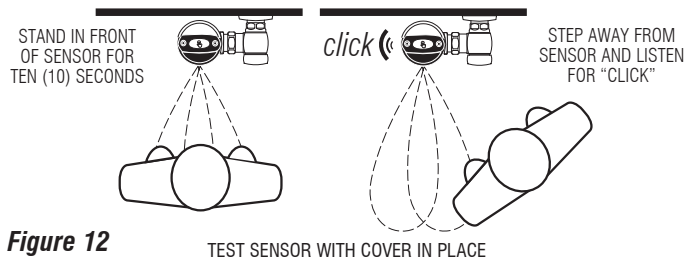

Figure 12
Step 9 — Test Sensor Operation (Figure 12)